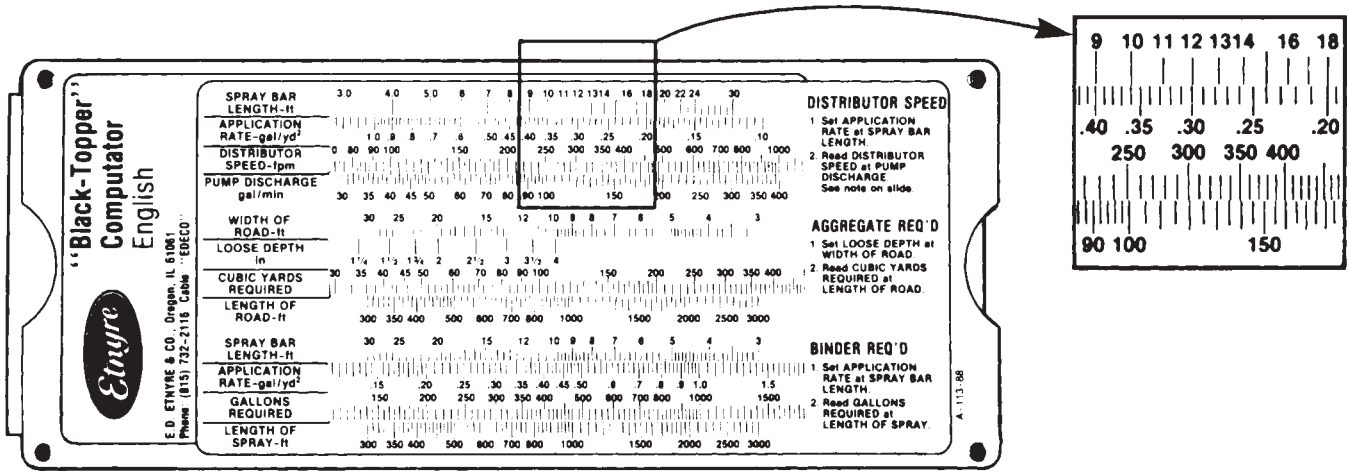

Figure 7. Using the Etnyre Computer
3. In a straight line below the application rate you will find the distributor speed and further below the pump discharge rate (see Figure 7).